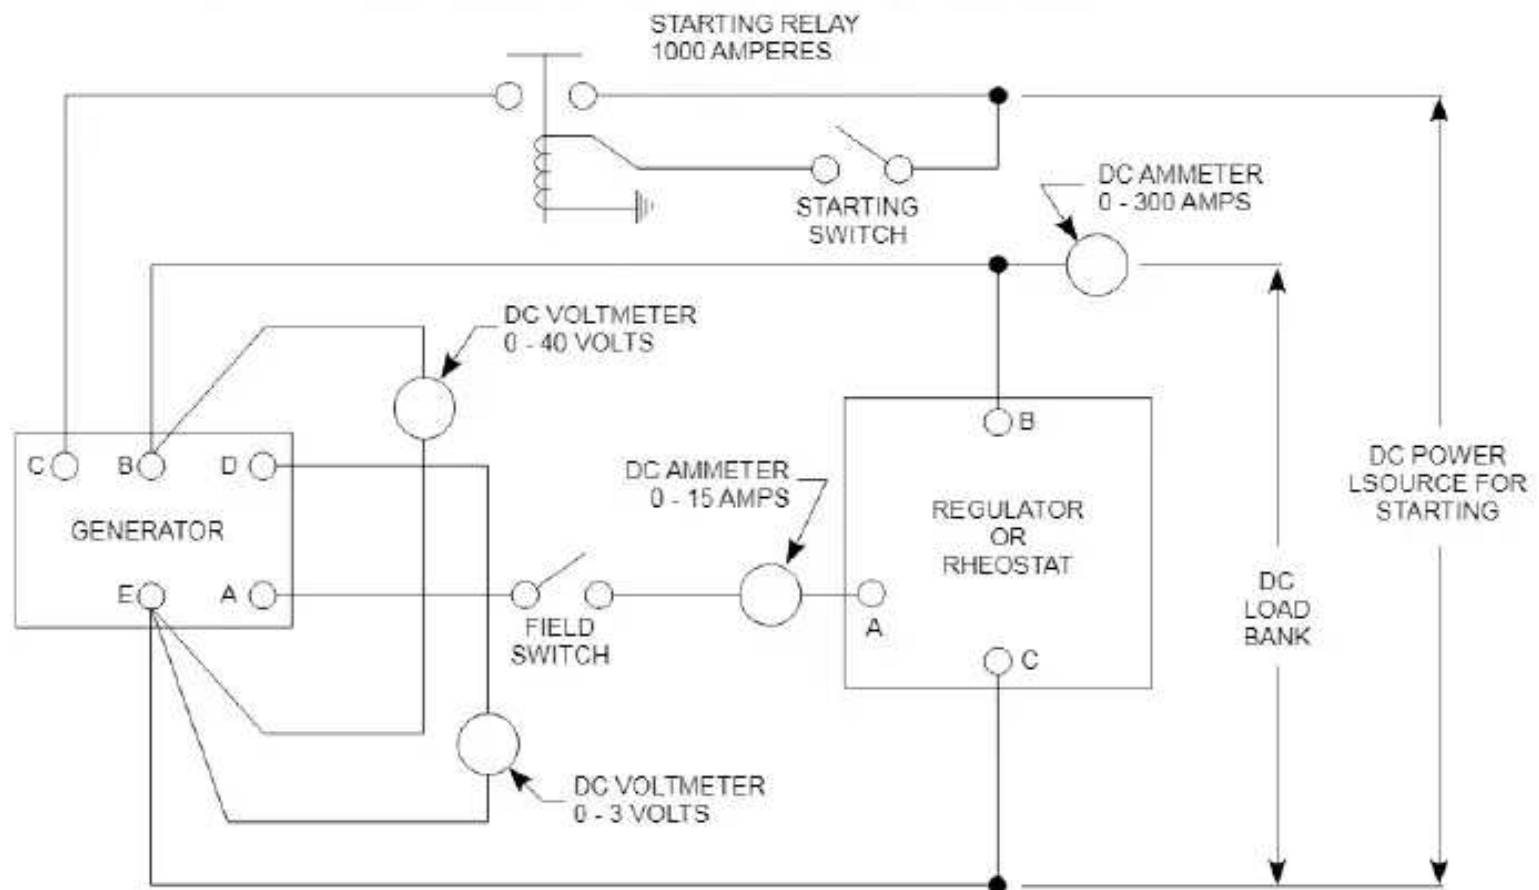

Figure 4-1
- 4-4. The standard test equipment required is a generator test stand capable of speeds from 6,500 to 14,000 rpm and a cabinet containing the necessary wiring, switches and meters as shown in Figure 4-1. The load bank should provide graduated load steps and a minimum load rating of 200 amperes.
For voltage regulation, connect a carbon pile regulator, Generator Control Unit or rheostat capable of controlling the field current from 0 to 10 amperes as shown in Figures 4-1 and 4-2.
- A. Connect the positive terminal of a 12-volt battery through a single-pole, single-throw knife switch to generator terminal A on the terminal board (Figure 4-1).
- A. Connect the Starter-Generator to the test circuit, as shown in Figures 4-1 or 4-2 as appropriate.